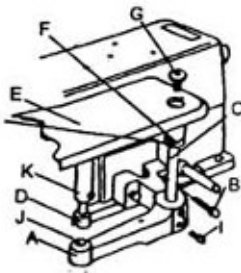

Fig. 3
- iv. Install the cloth plate assy (Fig. 3)